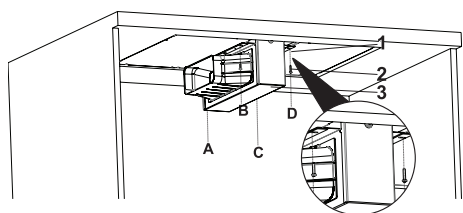

Fig. 29
10. ➤ Screw the appliance on the hob lower surface through A, B, C, D with 3.9x22 screws and M4 x 20 bolts (Fig. 29).